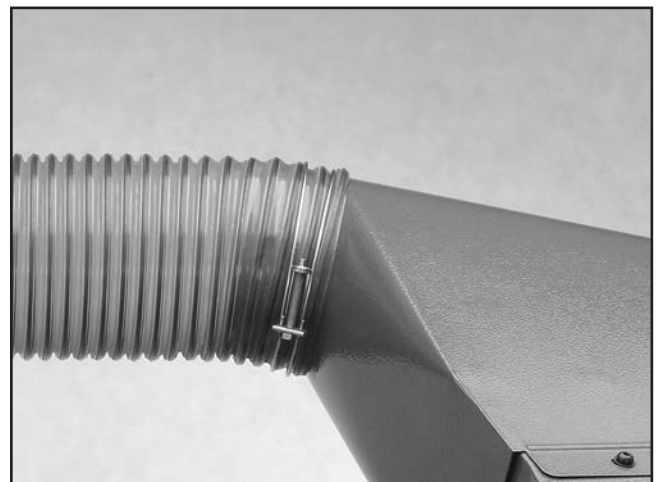

Figure 16. Dust hose attached to dust port.
1. Fit a 5" dust hose over the dust port, as shown in **Figure 16**, and secure in place with a 5" hose clamp.